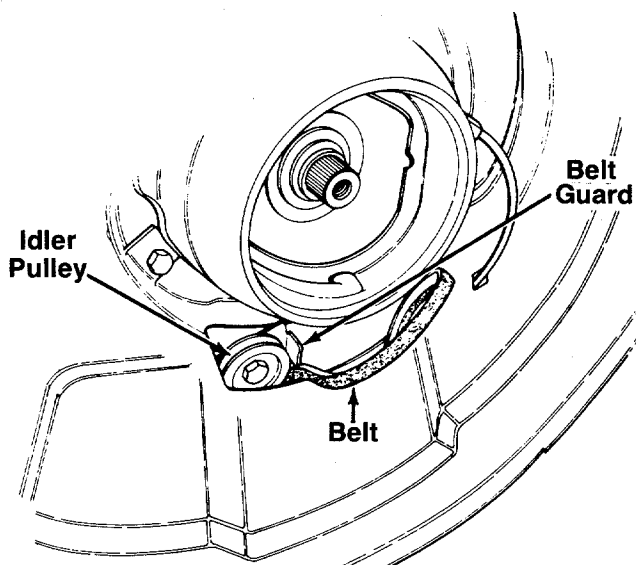

FIGURE 25.
9. Remove belt from the engine pulley half. Remove the belt from between the idler pulley and the belt guard on the idler pulley bracket. See figure 25.